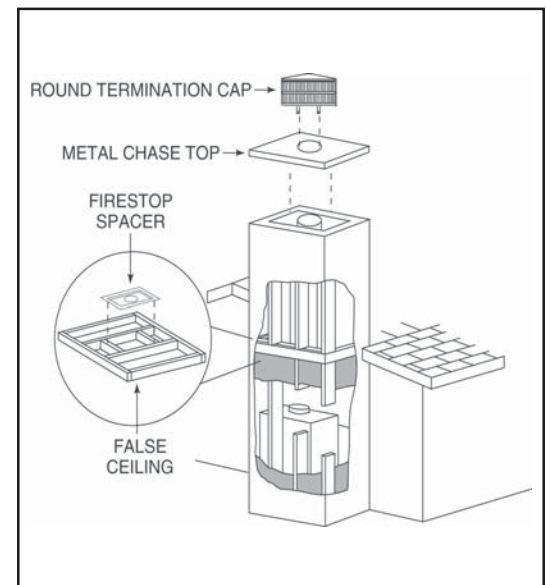

Figure 21 - Chase Assembly
- 4) In cold climates, the walls of the chase should be insulated to the level of the false ceiling as shown in Figure 21. This will help reduce heat loss from the home around the fireplace.